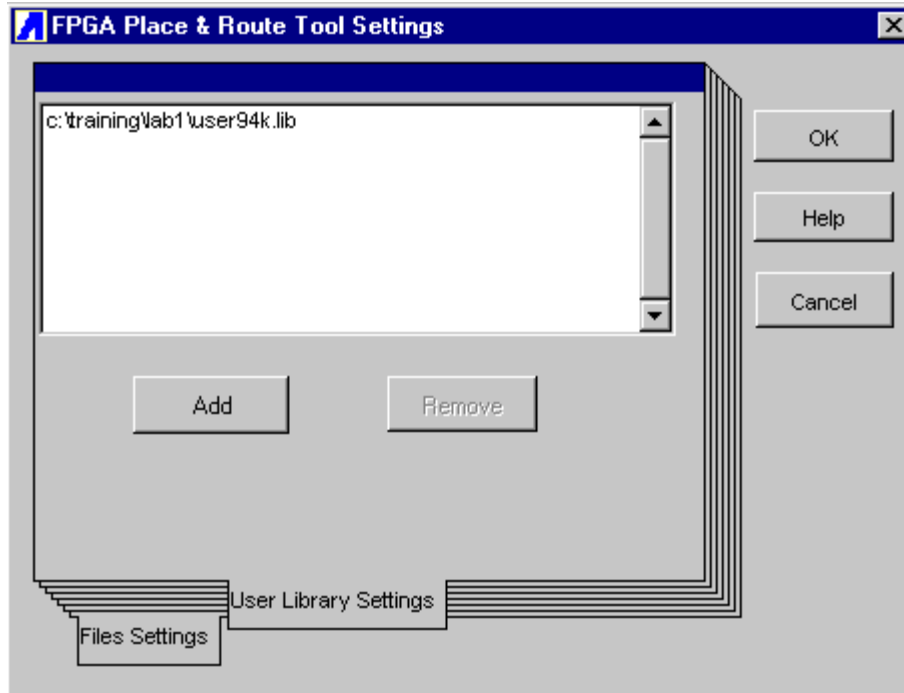

Figure 02. FPGA Place and Route Tool Settings
2. Select **Run FPGA place & route tool in stand alone mode**, another FPGA Place and Route Tool Settings dialog box appears, see **Figure 02**.